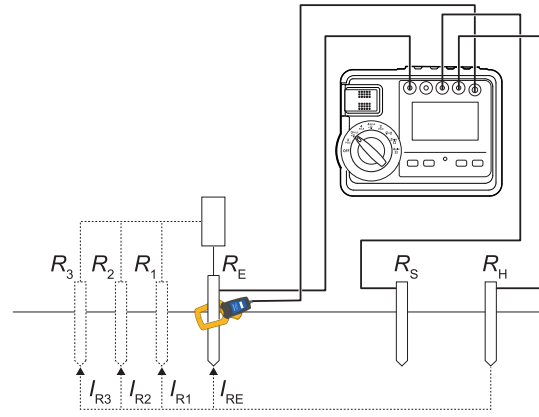

Fig. 2. Connection Diagram of the MEC Function.
electrode. A connection diagram is illustrated in Fig. 2. If the measurement voltage and clamp sensor measurement current are given as V and IR_E , respectively, the resistance of a single electrode in a multiple grounding environment (R_E) is derived as expressed by (3) below.